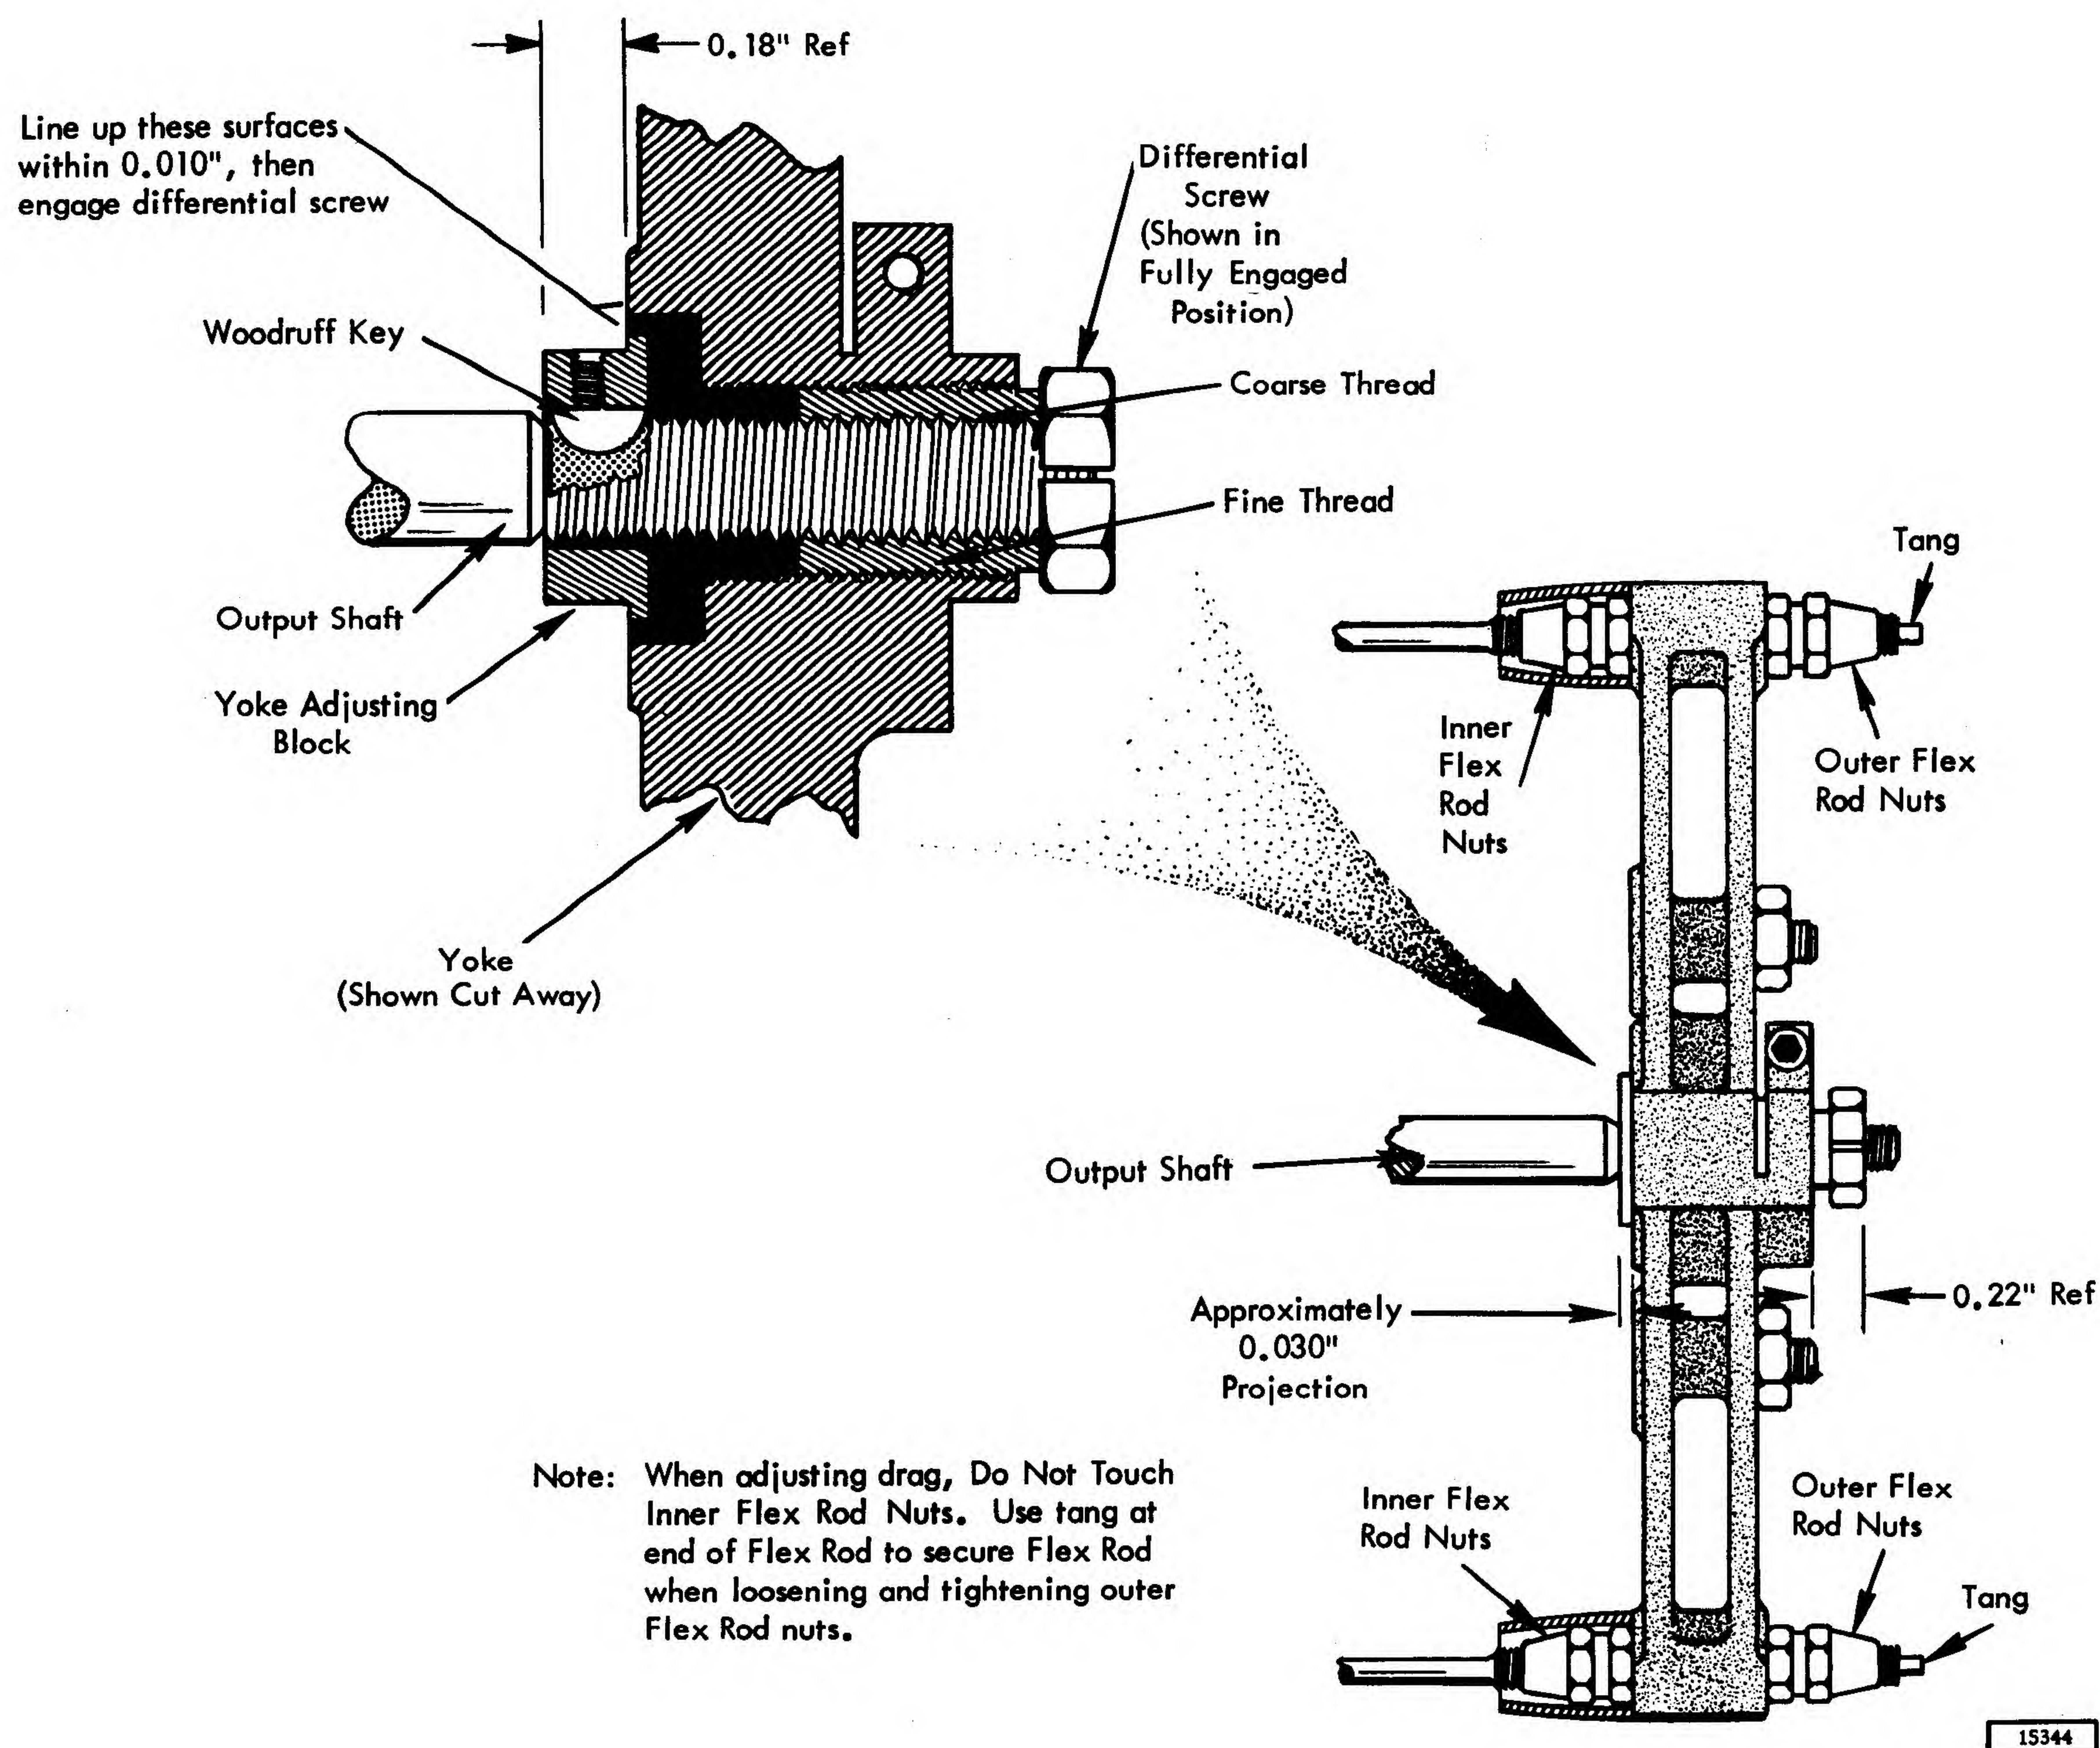

Figure 4-30. Yoke Adjustment
**WARNING:** When removing and replacing outer flex-rod nuts, holding at end of flex rod so that flex rod does not twist while nuts are being rotated. Do Not disturb setting of inner flex rod nuts. (See Note Section 4.11 and Figure 4-30.)
#### 4.12.2 Yoke Assembly (Figure 4-30)
#### 4.12.2.3 Replacement (Figure 4-30)